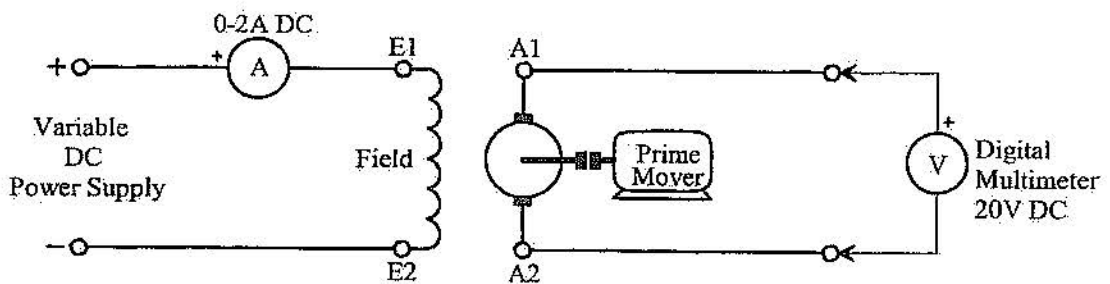

Figure 2
1. Connect the generator as shown in figure 2.